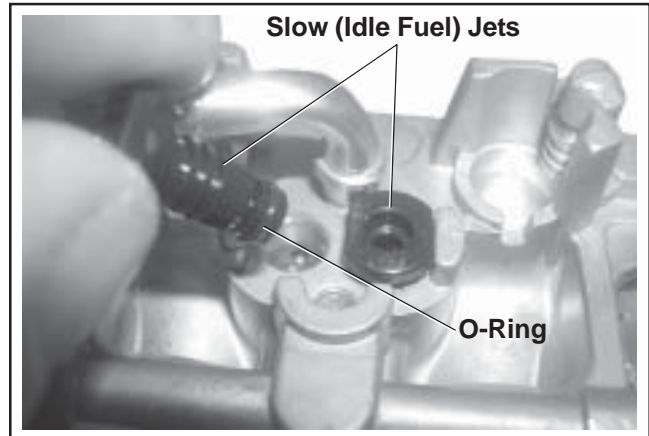

Figure 5-53. Slow Jets and O-Ring Detail.
9. Make sure the O-Ring near the bottom of each slow jet is new, or in good condition. Align and insert the two slow jets into the top of carburetor. See Figure 5-53.